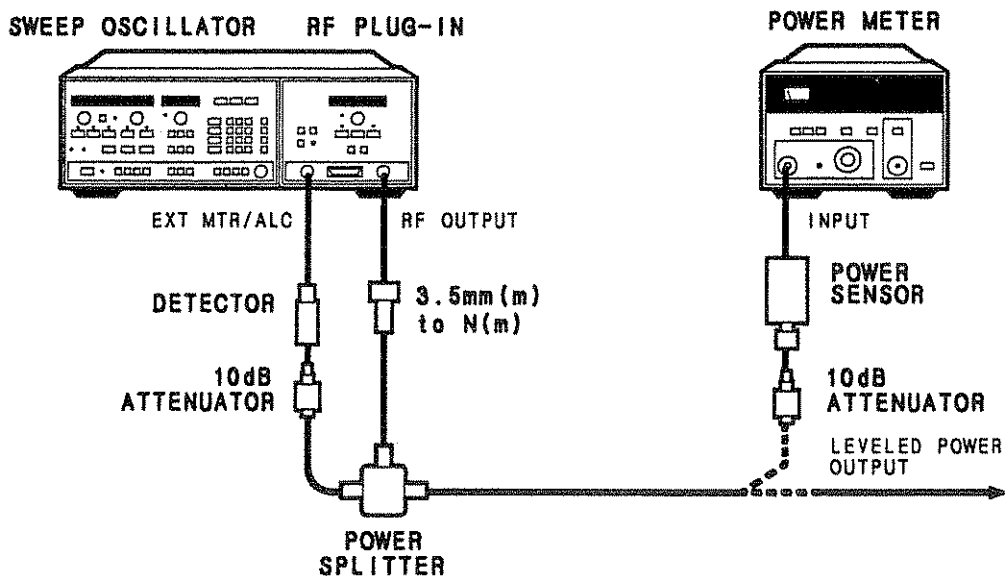

Figure 3-7. External Crystal Detector Leveling Set Up
1. Connect the equipment as shown in Figure 3-7. Turn the instruments on and allow them to warm up for at least 30 minutes.
4. To use leveled RF power output to test external equipment, make the connection at the point marked Leveled Power Output in Figure 3-7.